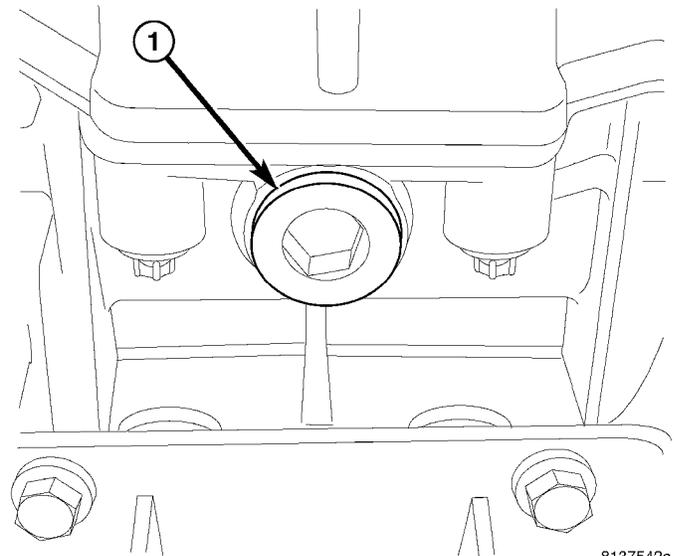

Fig. 3 DRAIN PLUG
- (1) Disconnect negative battery cable.
- (2) With vehicle in neutral, position vehicle on hoist.
- (3) Remove drain plug (1) (Fig. 3) and drain fluid.